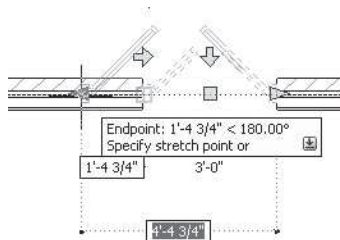

FIGURE 5.68 Editing window width using dynamic dimensions
11. Select the left grip of the Casement – Double Arched window, move the cursor left, and type **5' [1500]** in the dynamic dimension as shown in Figure 5.68. Edit the **Height** in the **Properties** palette to **5' [1500]**. Move the cursor from the Properties palette, and press **ESC** to clear the grips selection.